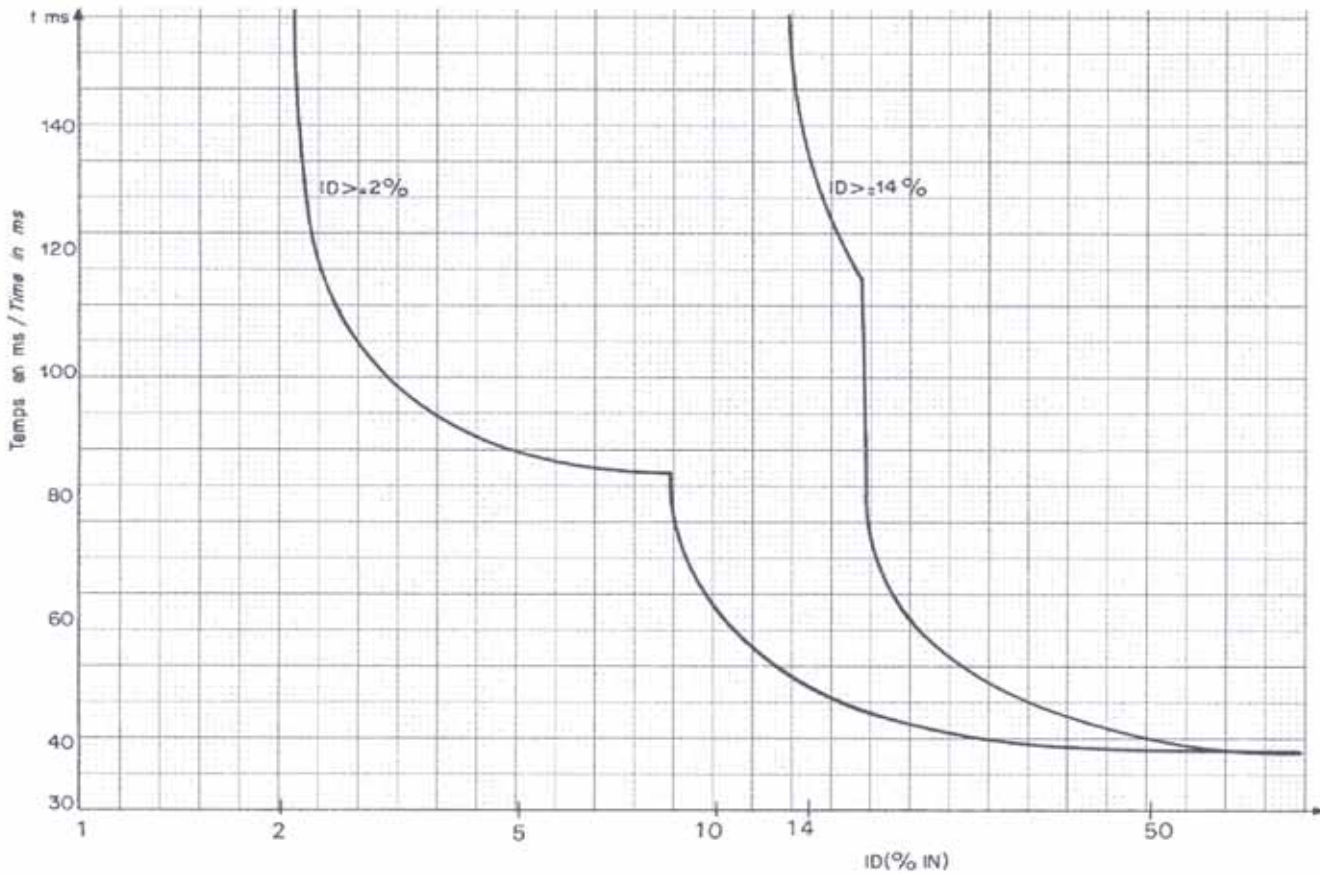

Figure 5 - DTM7033 - Temps de réponse / Operating time
- operating time	according to curve figure 5